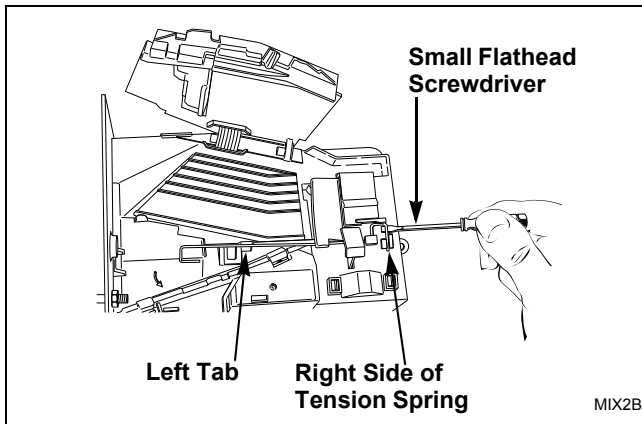

Figure 5
- (3) Place a small flathead screwdriver under right side of tension spring and lift up. Refer to *Figure 5*.
- (4) Use screwdriver to move spring approximately 3 mm to left.
(5) Lift spring over left tab. Refer to *Figure 5*.
- (1) Reinstall coin drop into machine.
- (2) Reconnect electrical power to machine and drop.
- (3) Add a coin to drop to verify that coin drop is operating properly and that electrical connection is working properly.
- (13) Lift spring gently to place in position under left tab.
- (14) Push spring to right until it snaps into position. Refer to *Figure 5*.
- (15) Close coin drop cover.